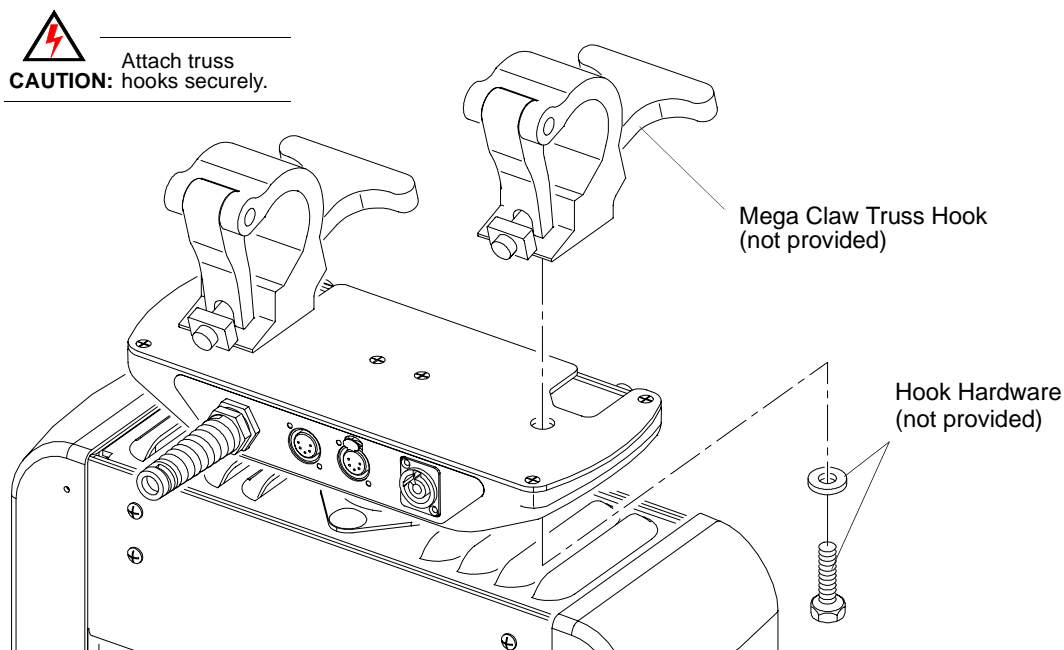

Figure 2-4: Example Luminaire Truss Hook Installation
Step 1. At pan tube base, attach two truss hooks as shown below (Figure 2-4).